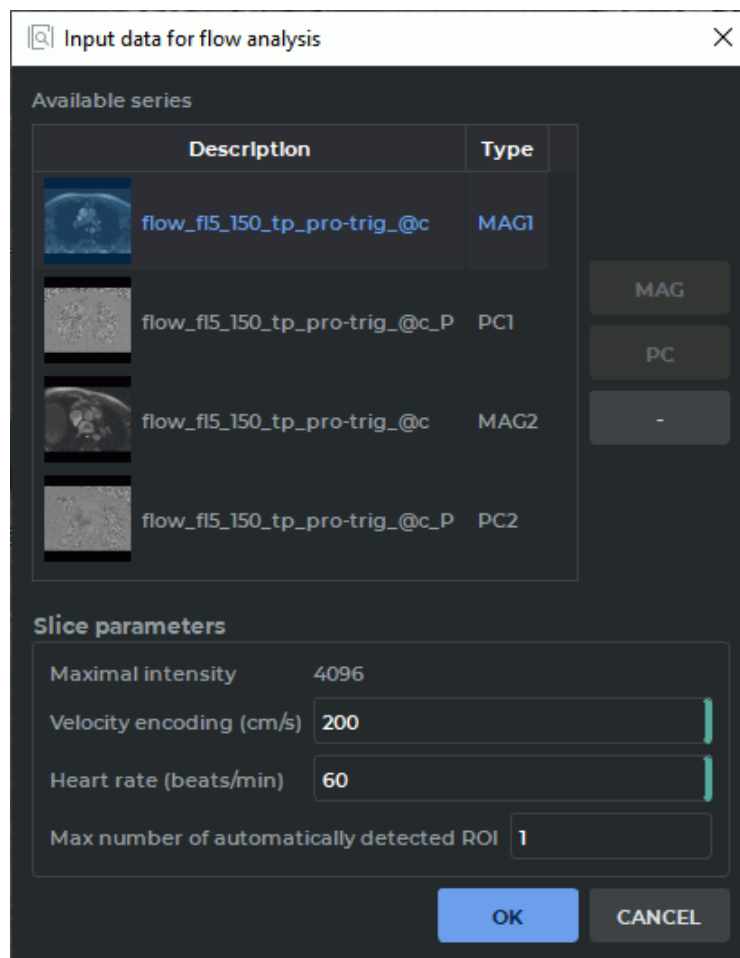

Figure 2.44: Input data for flow analysis dialog box
3. Provide the following parameters in the **Input data for flow analysis** dialog box (Fig. 2.44):
If you have not provided all the required parameters in the **Input data for flow analysis** dialog box (Fig. 2.44), the **OK** button will be inactive.
Attention! The tool works only in the MAG MRI window selected in the “Input data for flow analysis” dialog box (Fig. 2.44). If you choose a window from a different series, you will be notified that the tool is not available for the window selected.